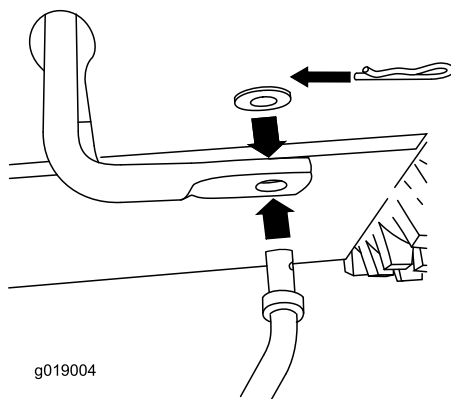

Figure 4
1. Insert the lower end of the rod into the lower link arm so that the bent end of the speed control rod faces rearward (Figure 4).
2. Secure the lower end of the speed control rod with a flat washer and a hairpin cotter (Figure 4).